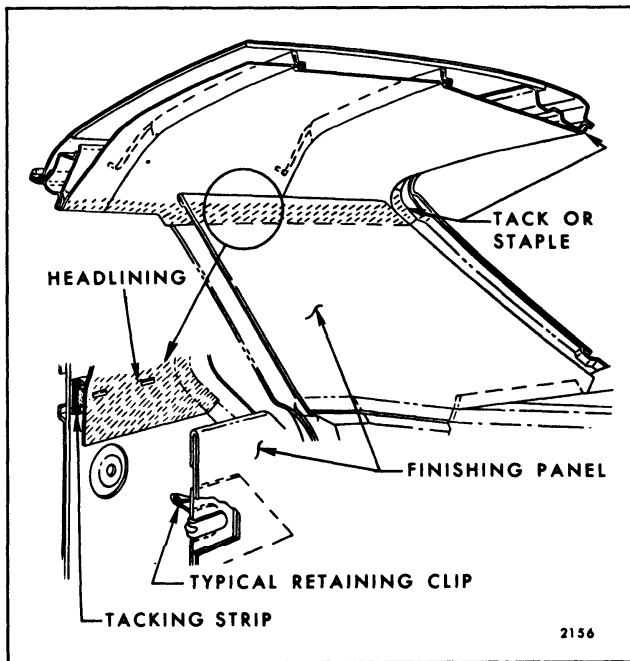
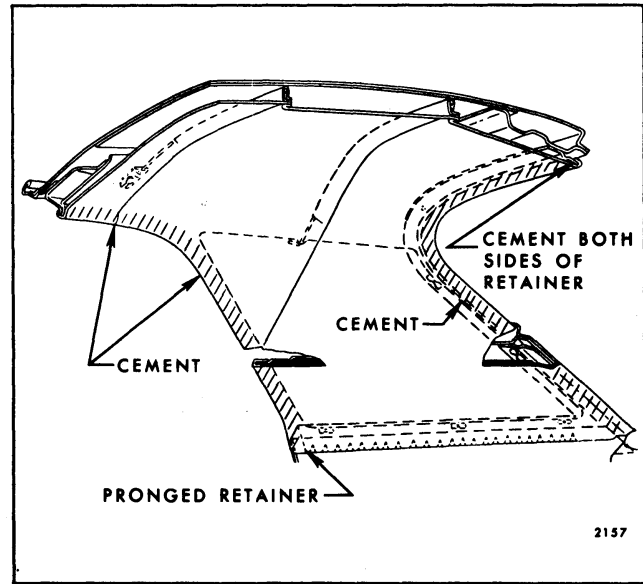

Fig. 11-2—Upper Quarter Trim Installation
Fig. 11-5—Headlining Installation at Roof Extension
Where garnish moldings are utilized the headlining is tacked or stapled in addition to being cemented at the windshield and back window or back body opening (View "E", Fig. 11-1 and Fig. 11-2).
utilized, the headlining is tacked or stapled to a trim stick in the roof extension area (See Fig. 11-2). The upper quarter trim is retained by clips (See Fig. 11-2). On "E" Body Styles the upper quarter trim is further retained by cementing the forward edge to the side roof rail. On styles where the headlining covers the entire roof extension area, the headlining is retained along the rear compartment shelf by a pronged retainer (See Fig. 11-5).
- 2. Apply approved trim cement to headlining attaching surface at windshield, side roof rail and back window or back body opening. On styles that utilize pinchweld finishing lace be certain cement is applied to both sides of retainer at windshield and back window or back body opening. (View "E", Fig. 11-1 and Fig. 11-5).